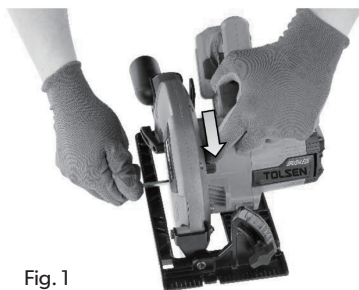

Fig. 1
2. Push the spindle lock button toward motor housing as the arrow shows in Fig. 1 and firmly hold it.